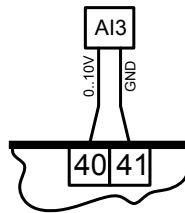

Figure 2
*If the air quality sensor with 0...10 V output is used, connect as per figure 2.